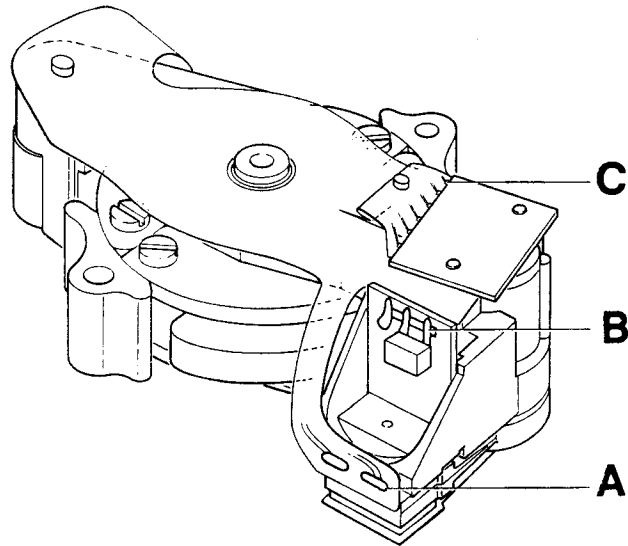

Fig. 2
- Remove the 2 fixing rings (item 60) from the flexible PCB.
- Desolder the connections A (see Fig. 2) of the flexible PCB.
- Apply the connections A and B (see Fig. 2).
- Replace the two fixing rings (item 60) of the flexible PCB.